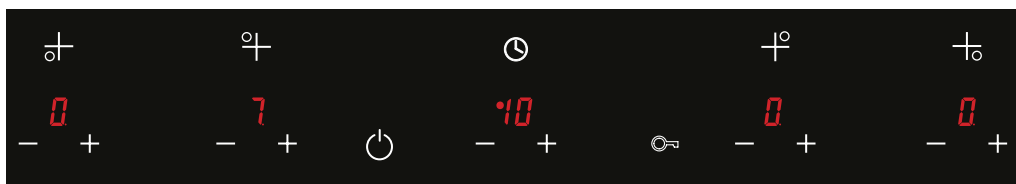
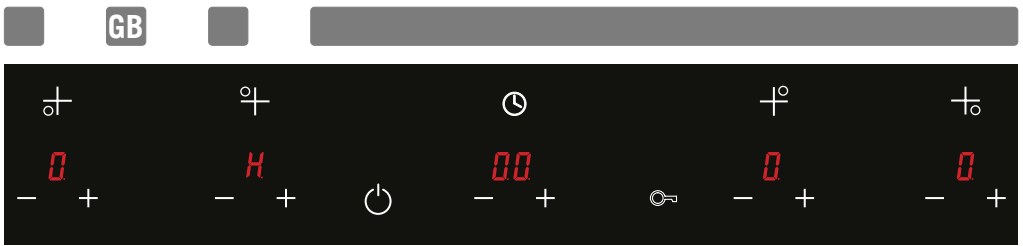

Figure 46
Figure 47
3. Relevant hob may be turned off by setting a timer. (See Fig. 46) When the time has expired, the timer flashes for 10 seconds and the hob set by the timer automatically switches off with a beep (See Fig. 47)
WARNING: On the figure above (See Fig. 46), a 10 minute cooking period is set at 7 temperature level for the upper left hob as an example. A cooking period between 1 and 99 minutes may be set at the desired temperature level for the desired hob.